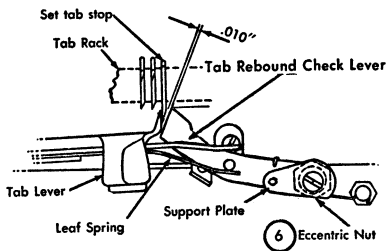

Figure 25. Rebound Check Lever Adjustment
6. REBOUND CHECK LEVER. Adjust this lever by rotating the eccentric nut at its mounting point so that, when the tab lever is held in the latched-out position and is forced to the left by a set tab stop, the rebound check lever will spring into place with a maximum clearance of .010". Keep the high point of the eccentric nut in the rear half of its circle (Figure 25).